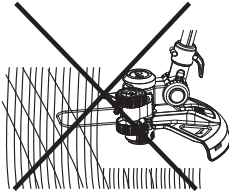
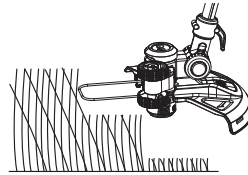

Fig. 19
Fig. 20
7. Ensure the cutting device remains clean and free from off-cuts that may cause it to jam. Check regularly. Release the on/off switch (3) and remove the battery pack before checking.
8. Trim longer grass in stages; do not cut long grass in one cut (Fig. 19). For the best results, cut longer grass in steps (Fig. 20).